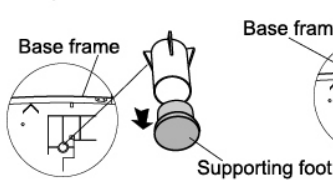
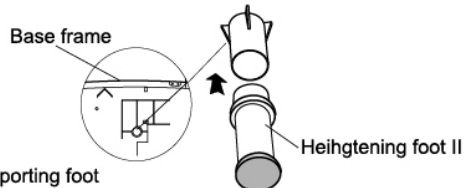

Figure 4
Figure 5
3. After properly install heightening feet, take off supporting foot, as figure 4. Put the heightening foot II into the base frame, then ensure to rightly install the heightening foot II, as figure 5.